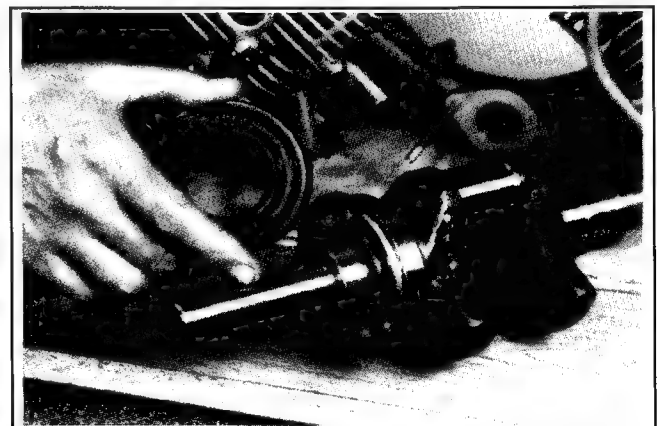

Figure 9-57. Oil Seal Removed From PTO End.
4. Remove the oil seal and ball bearing from PTO end of crankshaft. Use puller or press to remove bearing. TH18 engines have an additional snap ring on crankshaft to lock ball bearing in position. It must be removed to remove bearing. Discard the oil seal. See Figure 9-57.